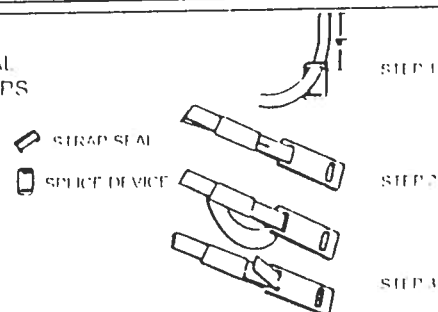

FIG. 5-12
- 4) The A-B chance strap seal device depicted by Fig. 5-12 may be used as directed for attaching the required doublewide centerline straps to ground anchors.
ALTERNATE STRAP SEAL DEVICE DEPICTED BY FIG. 5-12 MAY BE USED AS DIRECTED FOR ATTACHING THE REQUIRED DOUBLEWIDE SKYLINE STRAPS TO GROUND ANCHORS.
6. For double-wide homes see Fig. 5-12 for the splice connection at the centerline.